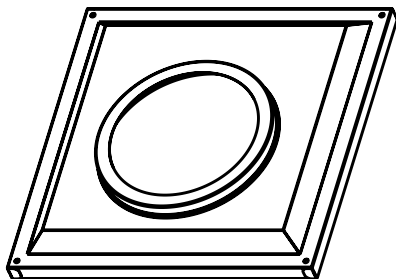

Figure 10.19 Wall Thimble
- Once the pipe section and the termination cap have been connected, slide the wall thimble up to the interior wall surface and attach with screws provided. See Figure 10.19.